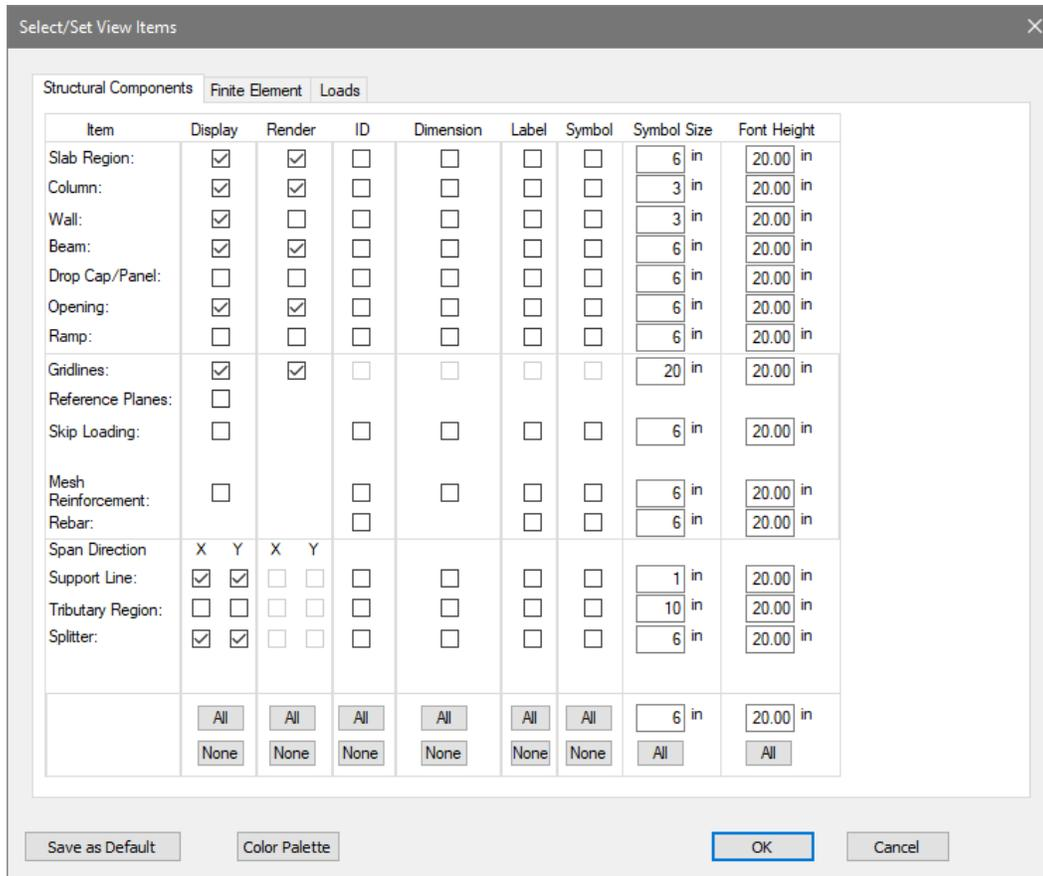

Figure 9-122
- Make the selections on the Geometry tab as shown in **FIGURE 9-122**.
- Go to *Home* → *Selection Tools* and click on the *Select by Type*  icon. This will open the *Select by Type* dialog window as shown in **FIGURE 9-122**.